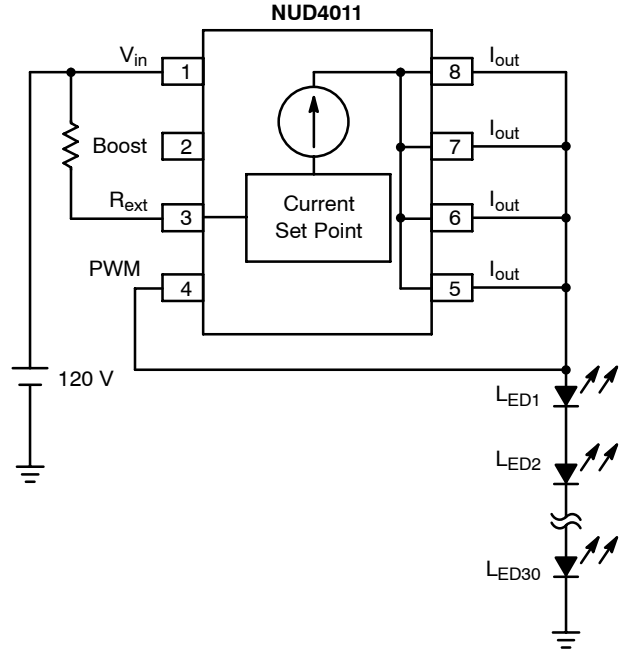

Figure 5. 120 V Application (Series LED's Array)
3. Device's pin 4 connected to the LEDs array (as shown in Figure 5).
- a. Per example in Figure 5, $V_{in} = 120 \text{ Vdc}$
4. Define $V_{LED} @ I_{LED}$ per LED supplier's data sheet: per example in Figure 5,
- a. Per example in Figure 5, $V_{in} = 120 \text{ Vac}$